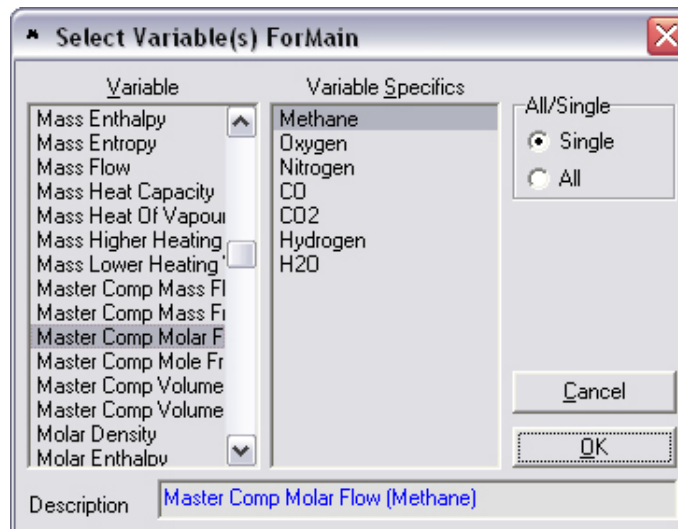

Figure 9-10
3. In the **Variables** page, click **Add...**, and Figure 9-10 will be shown.